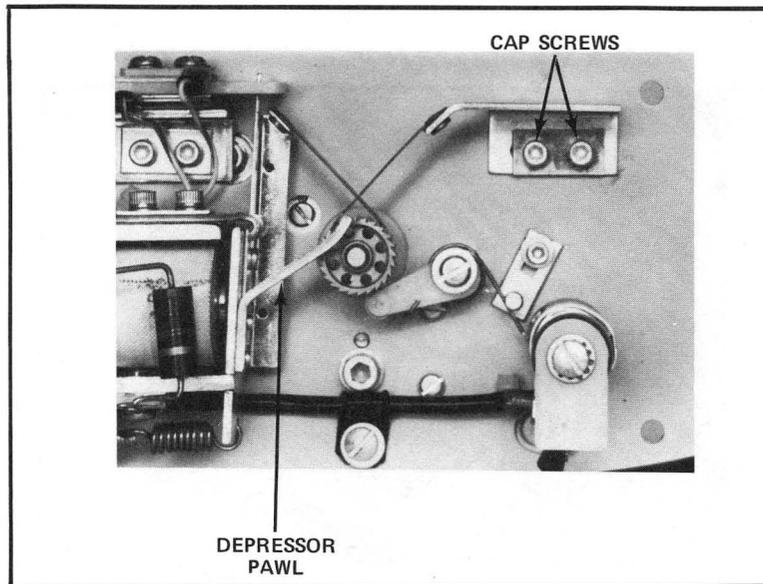

Figure 6-10 Depressor Pawl Alignment
- (2) If adjustment is required, loosen the two cap screws. See Figure 6-10.
- (3) Repeat step (1) and tighten the two cap screws.